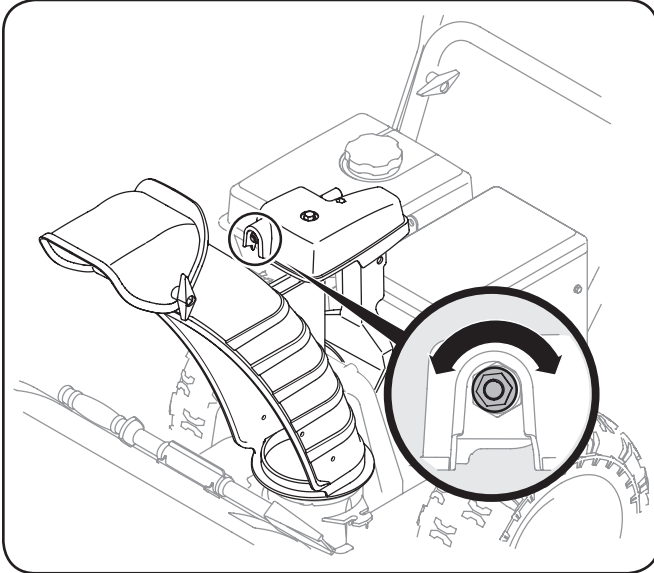

Fig. 6-6
- While preventing the chute control rod from turning, tighten the nut on the chute gearbox assembly. See Fig. 6-6.